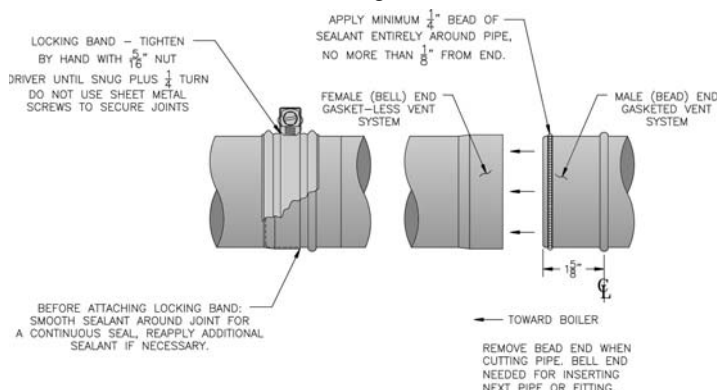

Figure 10D: Burnham Gasket-Less Female and Gasketed Male Vent Joint Detail
2. Procedure for joining the female end of Burnham Gasket-Less Vent with the male end of Burnham Gasketed Vent. See Figure 10D.